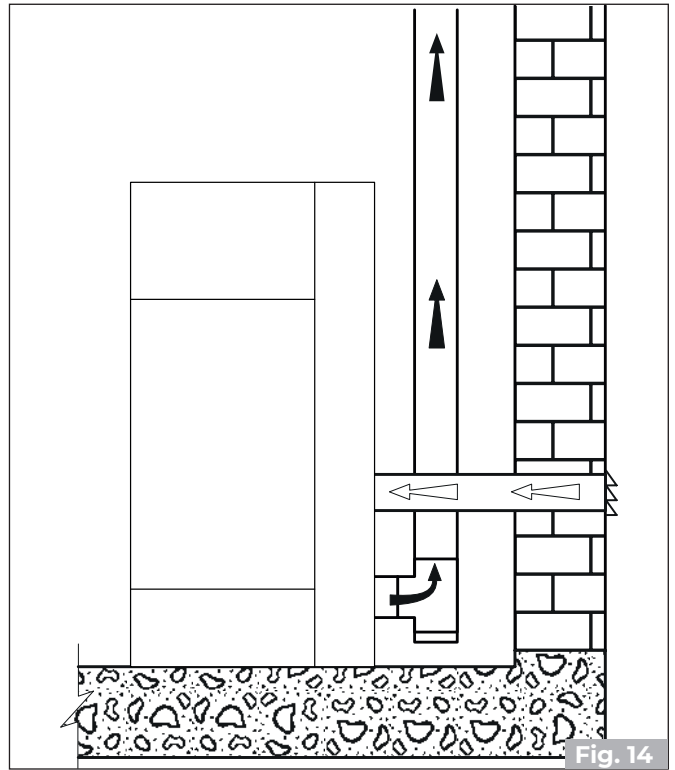

Fig. 14
- to connect the combustion air inlet of the appliance to the air intake using a special pipe (“Fig. 12” “Fig. 14”).